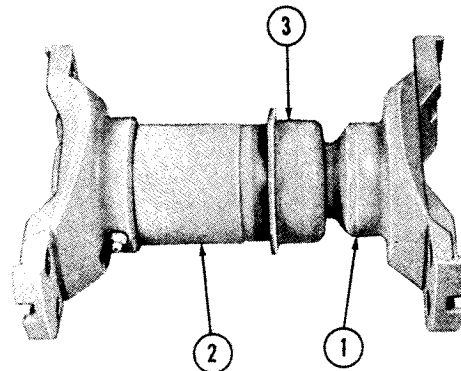

Figure 5-12
Slide the slip yoke (2, Fig. 5-12) onto the splined shaft (1) aligning the punch marks made at disassembly. Screw the packing retainer (3) onto the slip yoke and tighten it enough to avoid leakage when the shaft is greased.